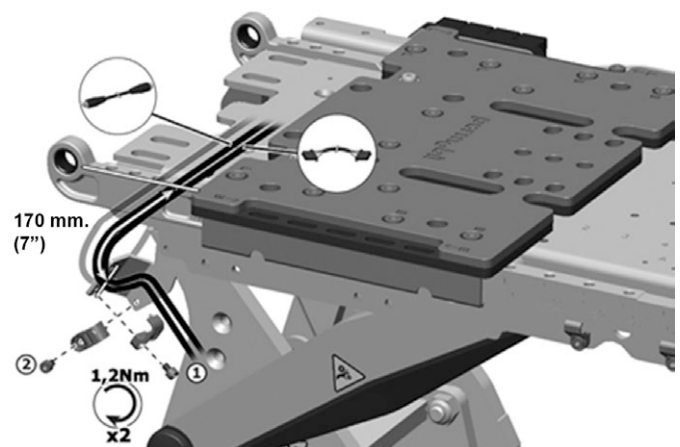

Figure 142. The distance between the first cable bracket on the AP-Elevator and the seat frame must be 170 mm. (7").
5. The length of the cable loop between the first cable bracket on the AP-Elevator and the seat frame must be 170 mm. (7"). The ICS bus cable is mounted behind the Rnet bus cable in the cable brackets. See fig. 142. **NOTE!** On seats with VS leg rest, Power transfer leg rest or Power adjustable leg length, the actuators cable must always be positioned in front of the bus cables loop. This to avoid damages to the cables during leg rest movement.
brackets are mounted with one screw each. See fig. 142. Use a Torque wrench to tighten the screws. **Tightening torque 1.2 Nm / 0.9 Ft/lbs.**